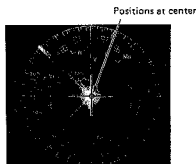

Fig. 5-18
- If the vector does not position at the center of vectorscope, press **PG DN** key twice to return to (14)-3, and repeat above procedure until vector positions at the center of vectorscope as shown in Fig. 5-18.